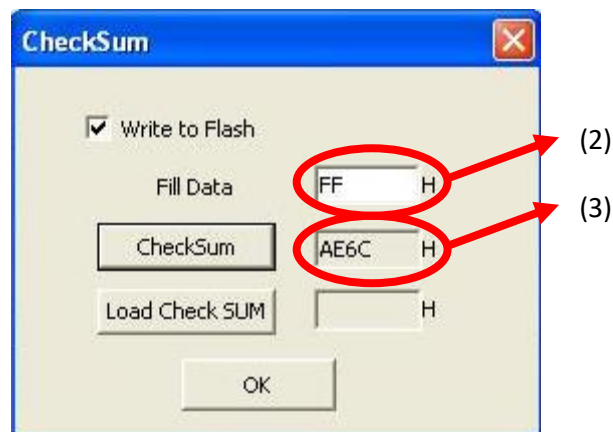

Figure 3-2 Calculate the Check Sum Result
- 2) Click **Check Sum** in main GUI, and check sum dialog box is opened, Input AA to **Fill Data**⁽²⁾, and click **Check Sum**⁽³⁾, the result display as figure 3-2. Finally, enable the **Write to Flash**.